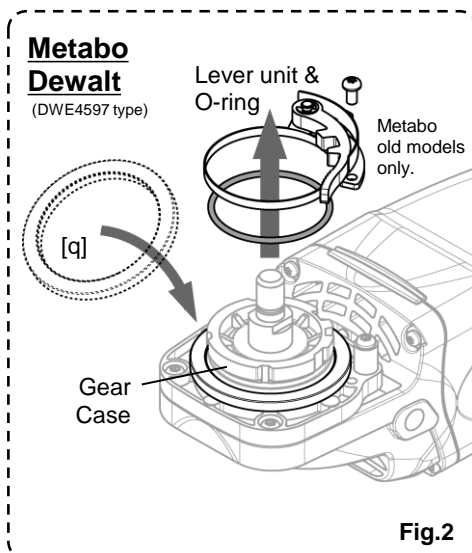

Fig.2
2. Set [q] Mount Ring on the Gear Case. (Metabo and Dewalt DWE4597 type only) (Fig.2)